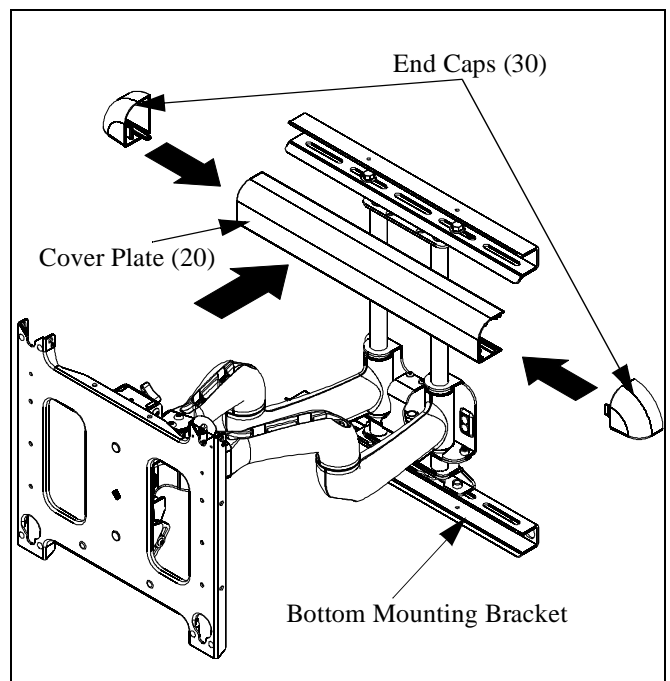

Figure 5
1. Install cover plate (20) over the top bracket. (See figure 5)
2. Install end cap (30) on the cover plate (20). (See figure 5)
3. Repeat steps 1 and 2 for the bottom mounting bracket. (See figure 5)